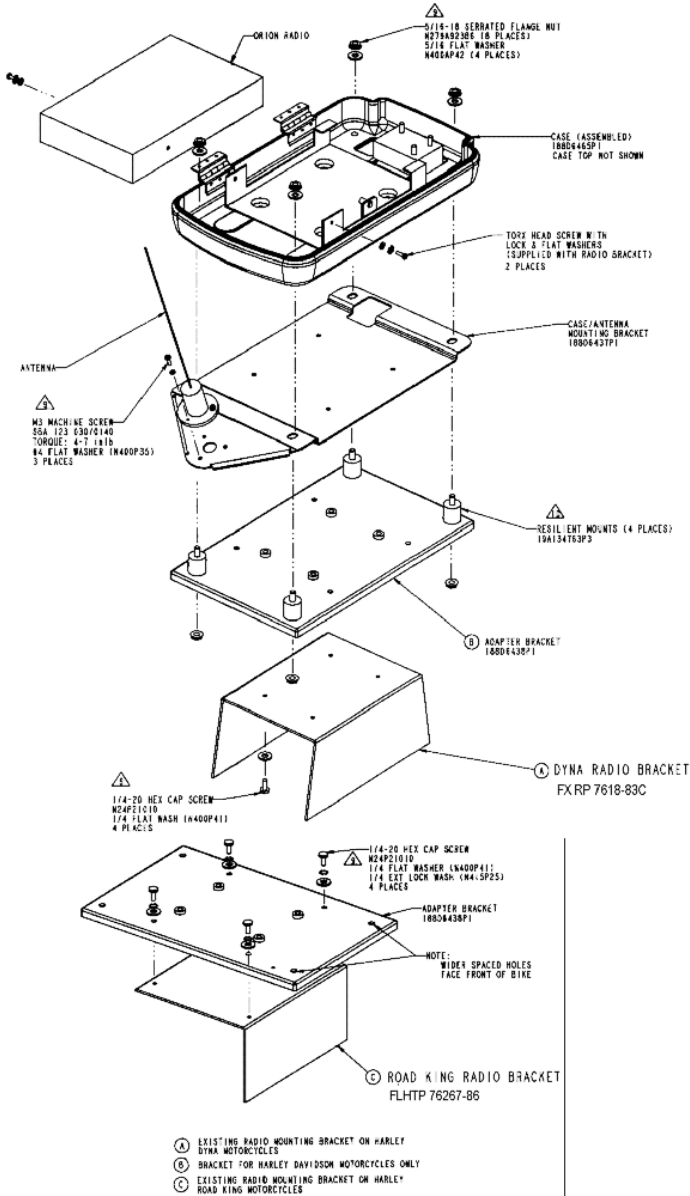

Figure 5 - Radio Installation, Harley-Davidson Motorcycles
The motorcycle Weather Resistant Case Assembly may be installed on almost any motorcycle. Installation instructions provided here include information for the Harley-Davidson Dyna and Road King models. Figure 5 illustrates installation on Harley-Davidson motorcycles. Refer to thIS diagram during installation. Installation on other motorcycles is at the discretion of the installer.
2. Refer to Figure 5 and verify all components shown in the diagram are available.
The radio mounting bracket for the Dyna and Road King models are different and require the use of different mounting holes. See Figure 5 – Radio Installation, Harley-Davidson Motorcycles.